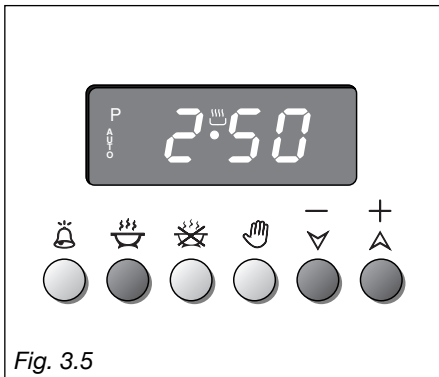

Fig. 3.5
1. Set the length of the cooking period by pushing the ☺ button and the Ⓐ (+) button to increase, or ▼ (-) to decrease if you have passed the desired time (fig. 3.5). The **AUTO** and the 🍲 symbol will illuminate.